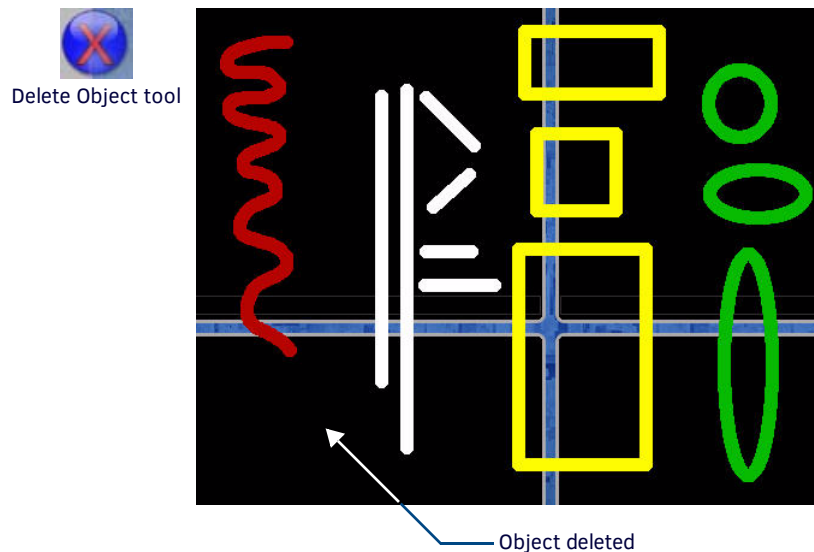

FIG. 95 Drawing annotations examples (Curved Line object deleted)
2. Press the **Delete** button (FIG. 95).